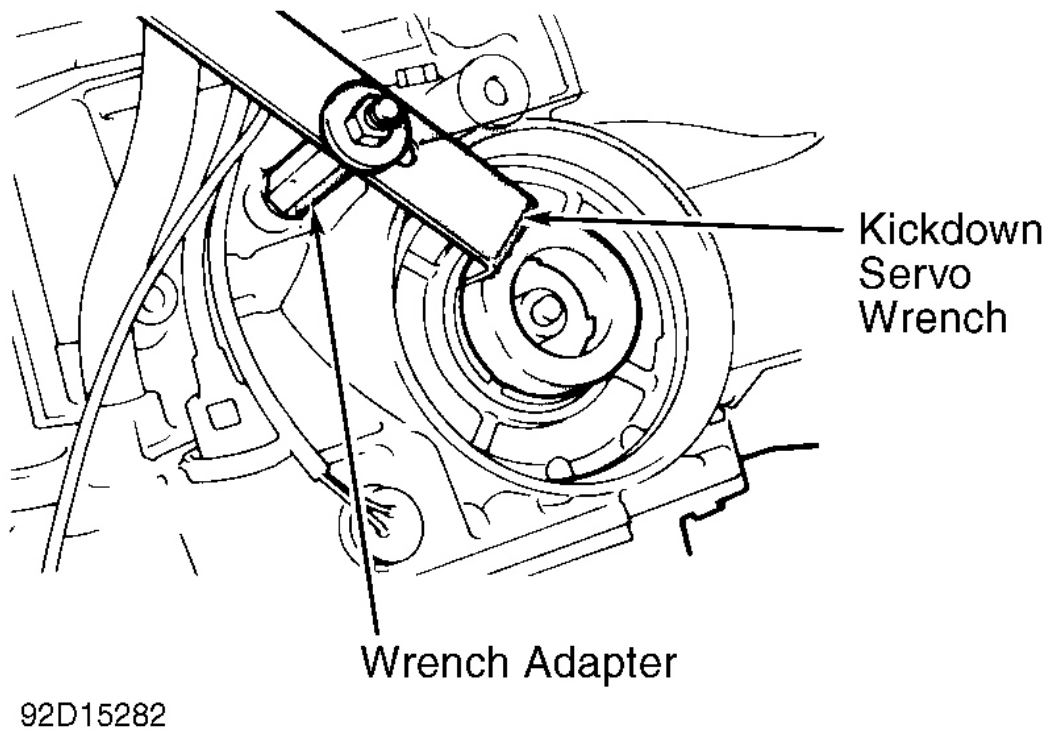

Fig. 2: Installing Kickdown Servo Wrench
1. Thoroughly clean area around kickdown servo switch. Remove snap ring. Remove kickdown servo switch. Using Kickdown Servo Wrench (MD998918) and Wrench Adapter (MD998915-A), secure kickdown servo piston from turning. See Fig. 2.